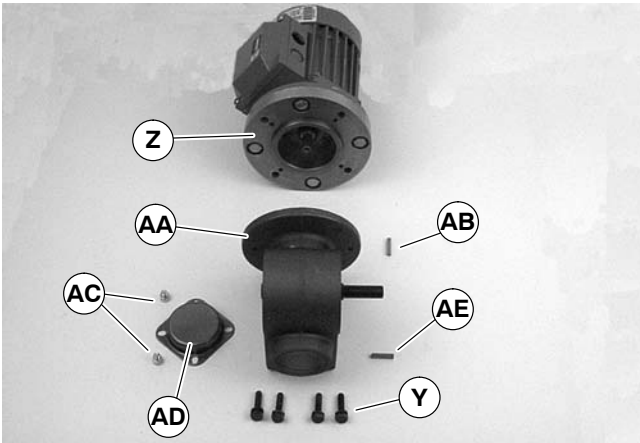

Figure 16
5. Remove four screws (Y of Figure 16). Detach motor (Z) from gear reducer (AA). Retain motor output shaft key (AB).
10. With key (AB of Figure 16) in keyway, slide motor (Z) and gear reducer (AA) together. Install screws (Y) and tighten.